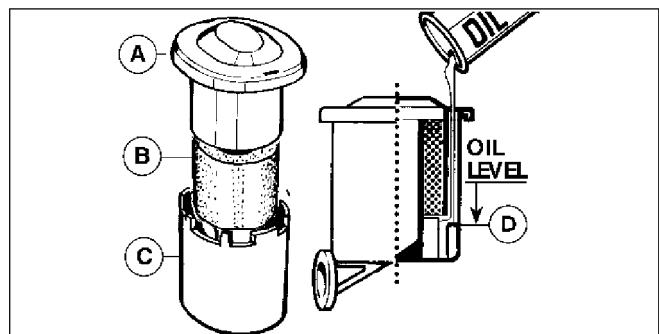

Fig. 9
5. OIL BATH FILTER (Fig. 9)
The oil bath filter is only efficient when the oil is at the level indicated on the bottom of the container (Fig 9-D). Check oil level every five (5) hours. If not to correct level, refill container using a similar oil to that used in the engine. Change oil once a year or more often when operating in extremely dusty conditions.